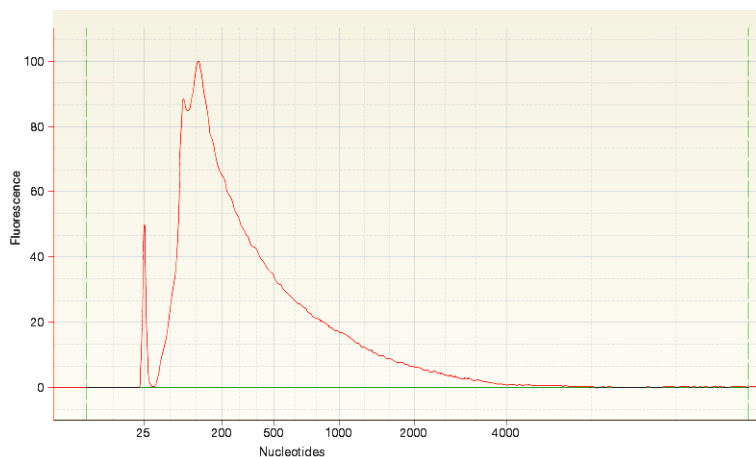
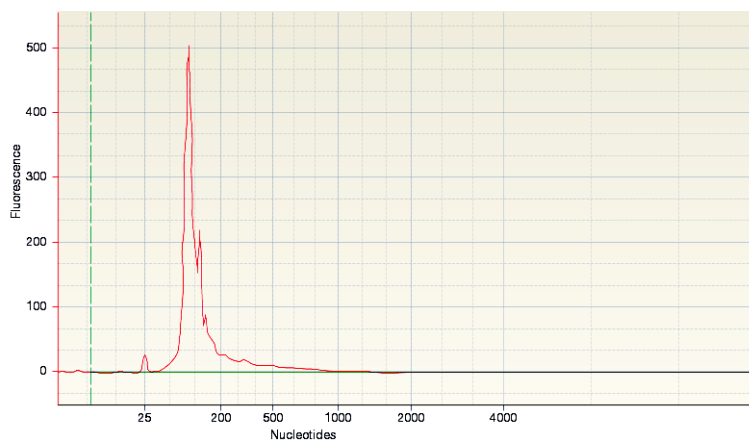

Figure 1 Size distribution of fragmented HeLa poly(A) RNA
Figure 2 Size distribution of fragmented HeLa rRNA-depleted total RNA
The figures in this section show profiles from an Agilent™ 2100 Bioanalyzer™ instrument after RNase III fragmentation and cleanup. Figure 1 shows results with HeLa poly(A) RNA. Figure 2 shows results with HeLa rRNA-depleted total RNA.